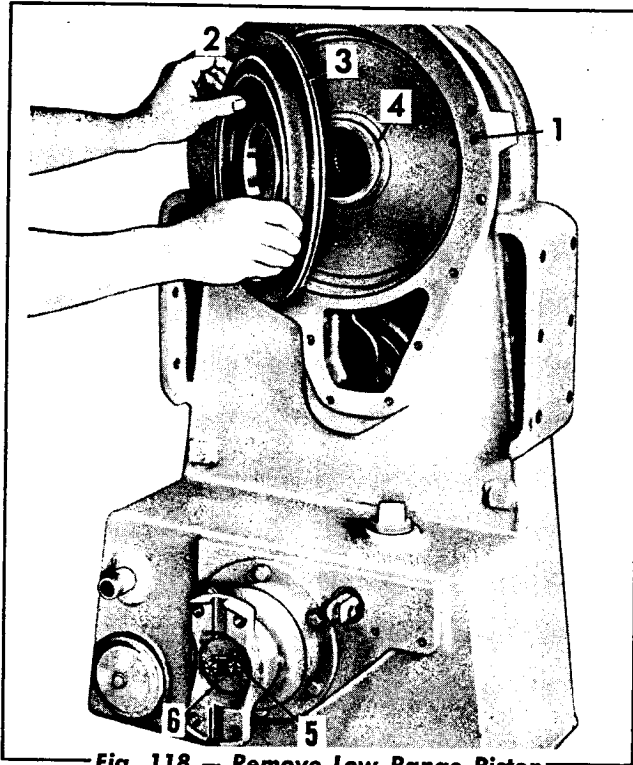

Fig. 118 — Remove Low Range Piston
1. Use compressed air in the piston apply hole (Fig. 118) and remove the low range piston. Remove the seal from the piston. Remove